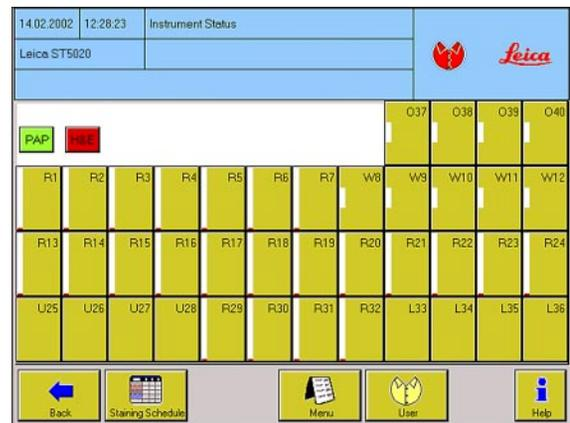

Fig. 25
- If no changes are made, the **INSTRUMENT STATUS** menu (Fig. 25) will open up. **INSTRUMENT STATUS** is the standard screen - all functional descriptions in the present chapter 5 start from **INSTRUMENT STATUS**.